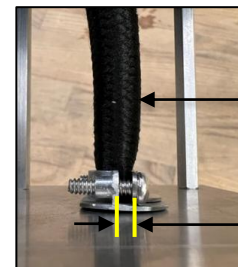
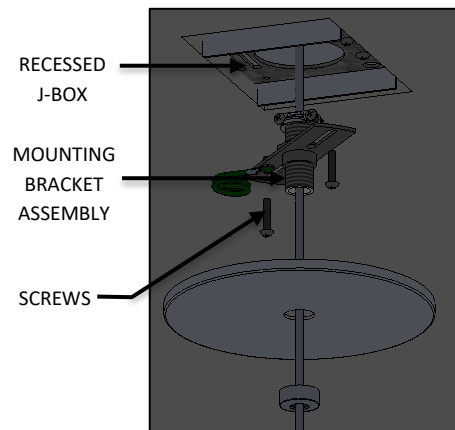

FIG. 33 – STRAIN RELIEF WITH CORD INSERTED
FIG. 34 – FINIAL ASSEMBLY
26. Make all wire connections between DRIVER and FIXTURE CORD, all wire connections in the inside the junction box in accordance with the national electrical code and all applicable local and state codes. See WIRE DIAGRAM on page 10 as shown in FIG.34.
28. Make wire connections between Building Supply, Driver and fixture cord inside the junction box in accordance with the national electrical code and all applicable local and state codes. See WIRE DIAGRAM and WIRE LABEL TABLE shown in FIG. 33 and FIG. 34 for wire connections